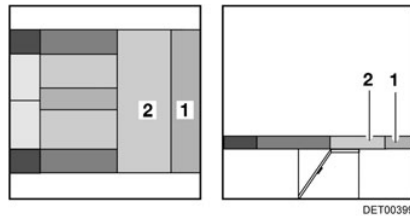

Fig. 46 After conversion
- Pull the seat cushion (Fig. 46,2) to the central seating group.
- Insert the back cushion (Fig. 46,1) between the seat cushion and the exterior wall.